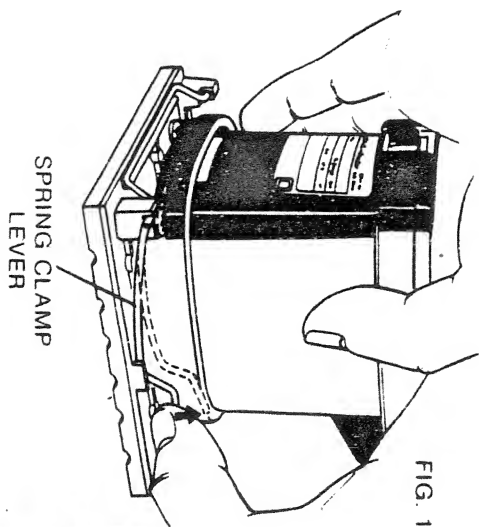

FIG. 1
- 2 Release clamp by pulling up on clamp lever and disengaging it from the tab on the base plate (See Fig 1)